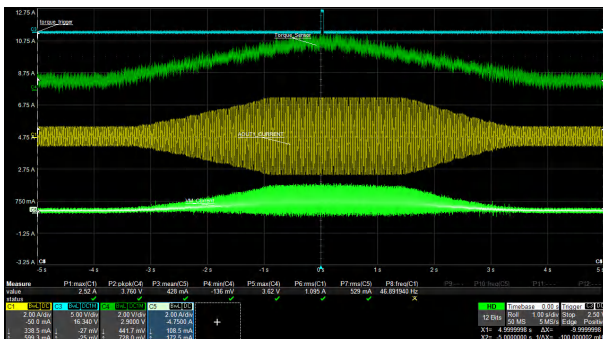

Figure 2-12. ATQ\_UL = 40, ATQ\_LL = 40
- As shown in Figure 2-12, smaller hysteresis means the response to load increase or decrease is similar.